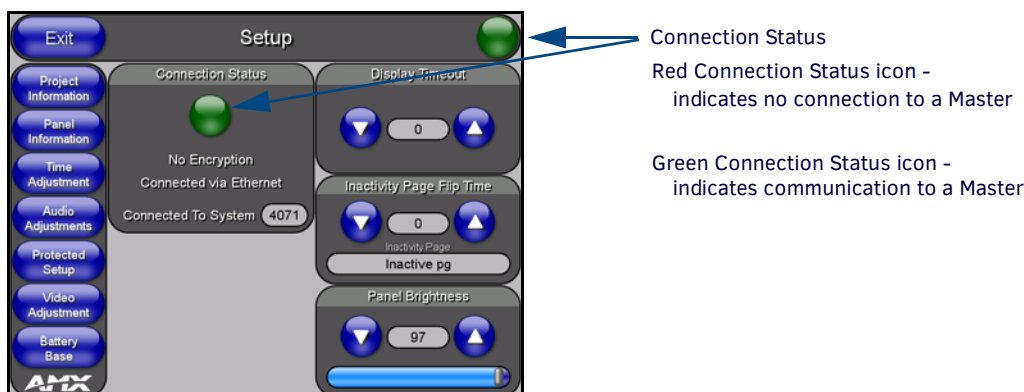

FIG. 130 Setup page
1. Press the grey Front Setup Access button for **3 seconds** to open the Setup page (FIG. 130).